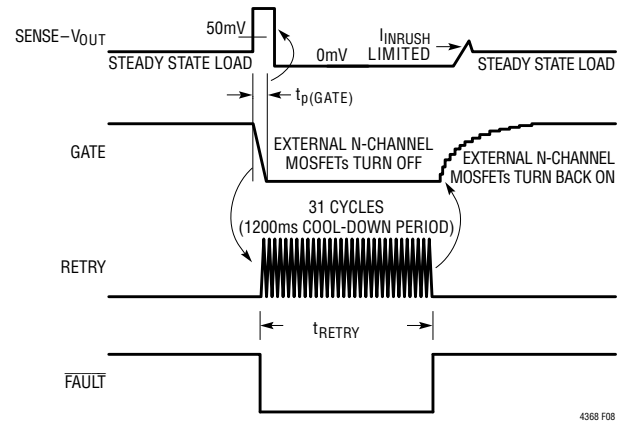

Figure 8. Forward Overcurrent Fault with  $0.22\mu F$  RETRY Capacitor
1. Automatically restart by placing an external capacitor on the REPLY pin. An internal cool-down timer will charge/discharge this capacitor 31 times with a  $5.5\text{ms/nF}$  total delay. At the end of this delay, the external MOSFETs are turned back on, thus reconnecting the load to the input supply. The  $0.22\mu\text{F}$  capacitor ( $C_{RETRY}$ ) in the application of Figure 7 yields a  $1200\text{ms}$  cool-down timer delay. Note that the adjustable cool-down period provides the user with a means of keeping the external MOSFETs within the rated SOA (safe operating area). See Figure 8 timing diagram.